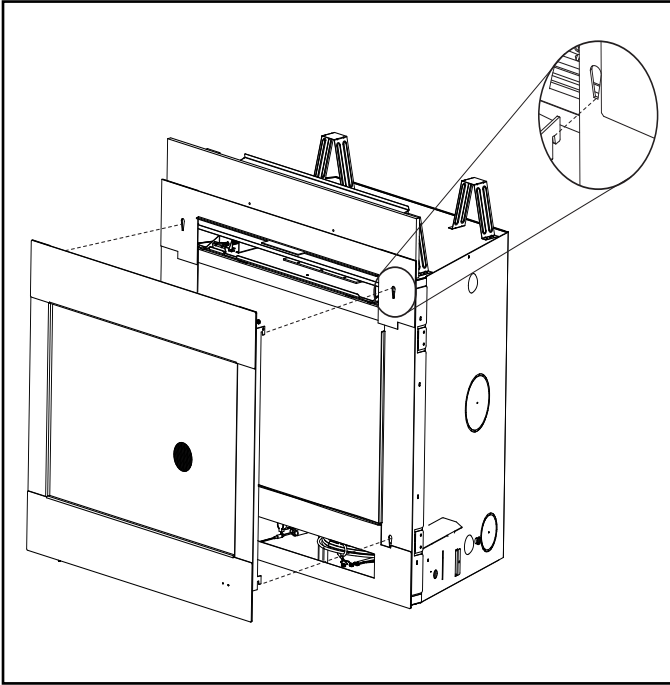

Figure 3. Outer Door Attachment
- 4 Attach the outer door to the inner door, mount the four J-Hooks on the slots. See Figure 3.